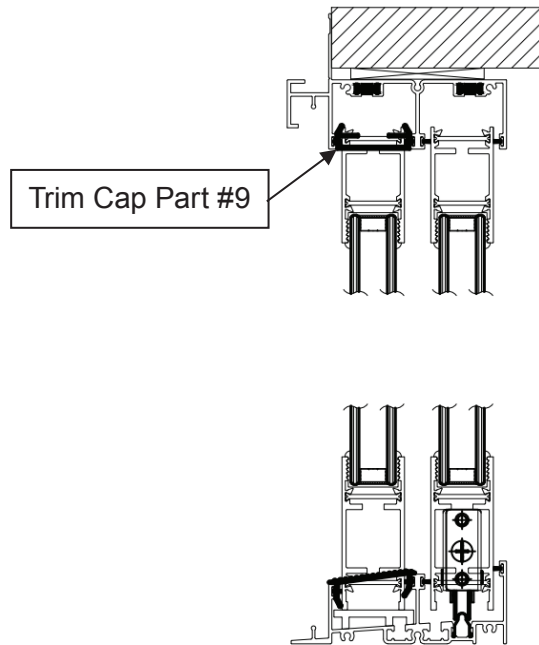

FIGURE 17
20. Install head trim cap (Part #9) into exterior head track as shown in figure 17.